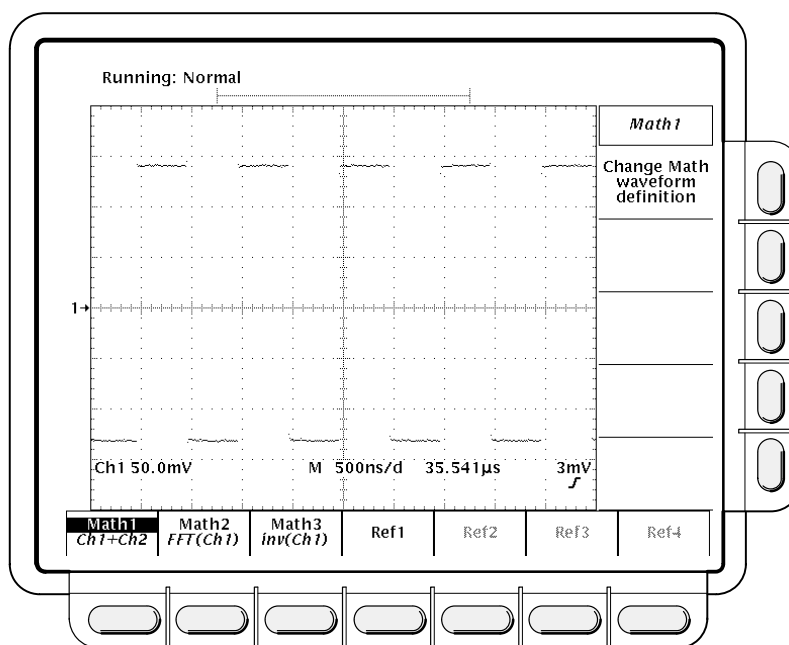

Figure 3-70: More Menu
To perform waveform math press the **MORE** button to bring up the More menu (Figure 3-70). The More menu allows you to display, define, and manipulate three math functions.
1. Press **MORE** → **Math1**, **Math2**, or **Math3** (main) to select the waveform that you want to display or change (Figure 3-70).